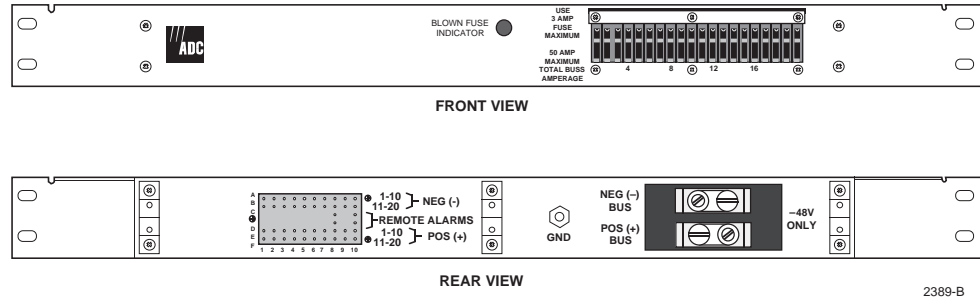

Figure 2-7. Fuse Panel
3. Complete the connection (step 2) to the -48 V (NEG(-)BUS) and ground (POS(+))BUS terminals on the fuse panel. See Figure 2-7.